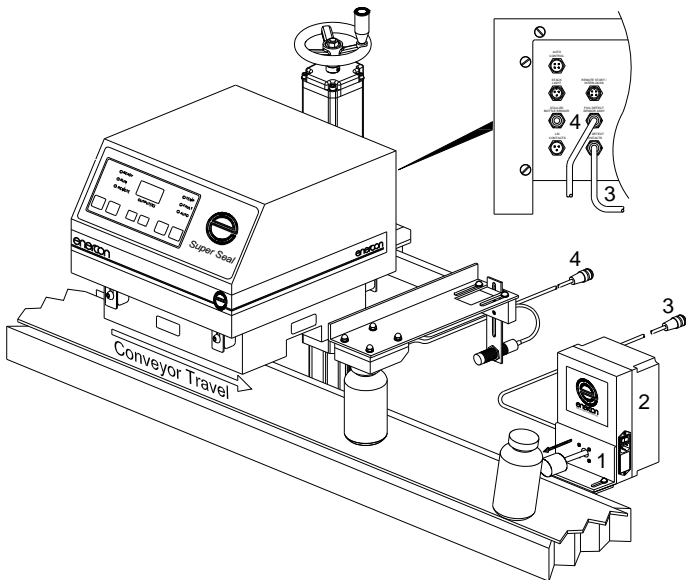

Figure 39
Mounting brackets and hardware are (1) furnished for mounting the Ejector (2) to your conveyer (**See Figure 39**). The Ejector is designed to work with the Optional Enercon Foil Liner Detector and should be mounted downstream of the detector in a location that will allow the ejected containers to be collected.